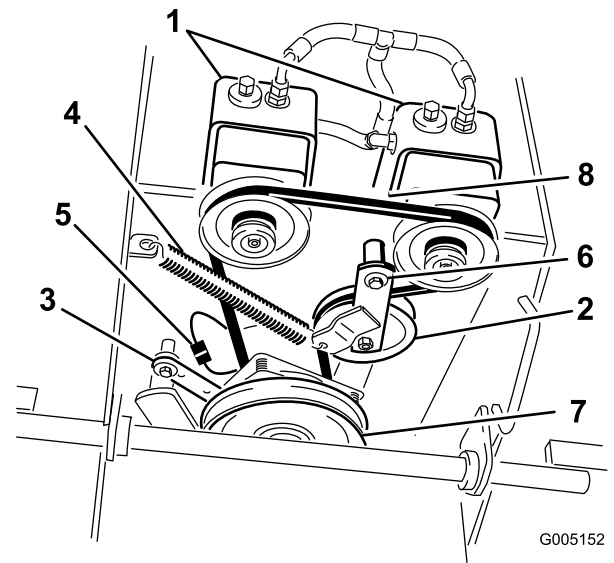

Figure 53
7. Unhook the idler spring from the frame (Figure 53).
9. Install the idler spring between idler arm and frame bracket (Figure 53).
10. Install the clutch retainer to the engine deck (Figure 53).
6. Disconnect the clutch retainer from the engine deck (Figure 53).